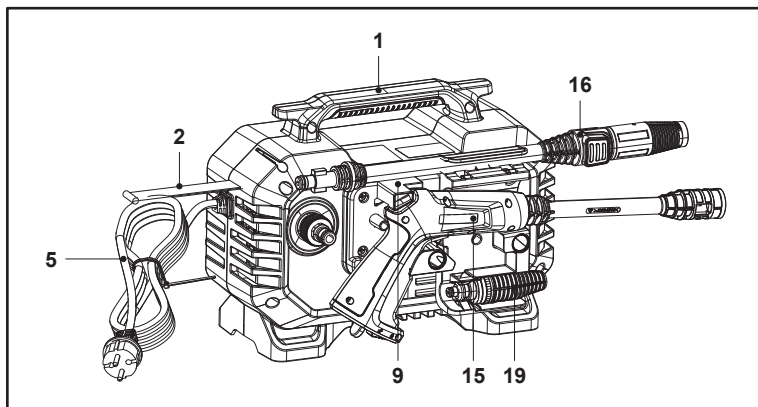

Fig. 17
2. Secure the power cord (5) with the fasten belt (2) and keep the fasten belt (2) in place through the slot on the top of machine.
3. Store the spray gun (15), extension lance (16) and nozzle (18 / 19) in their holders (12, 10, 11) as shown in Fig. 17.
4. Always transport the machine by its top handle (1).